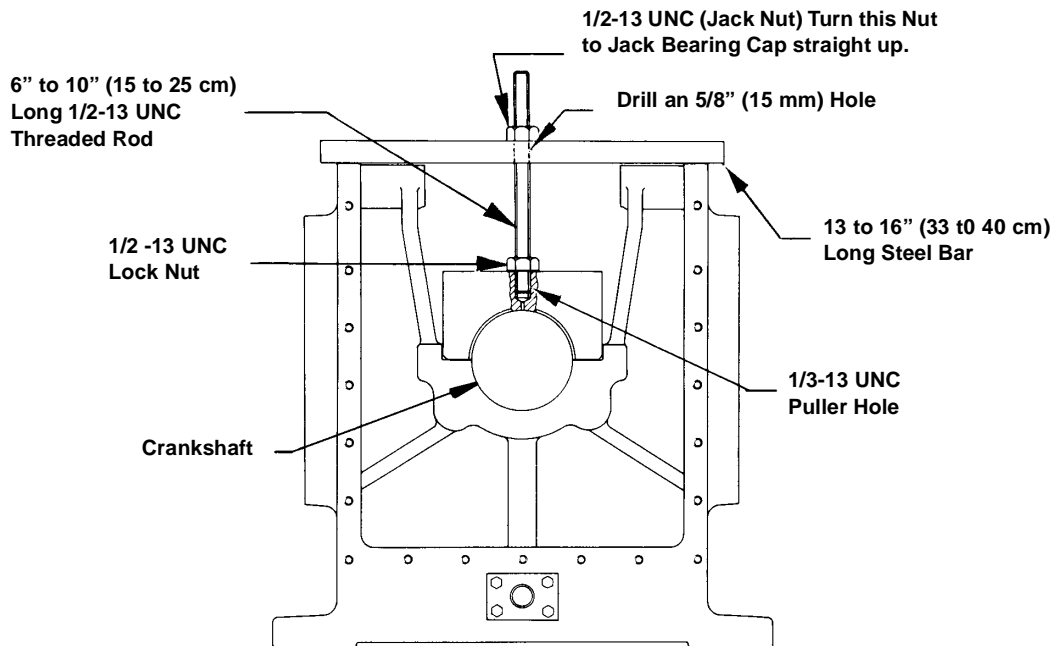

FIGURE 5-5: BEARING CAP PULLER
6. Remove the capscrews from the bearing caps. Pull the caps straight up to prevent damage to the dowel fit. If the cap is tight, use a Bearing Cap Puller as illustrated in Figure 5-5: